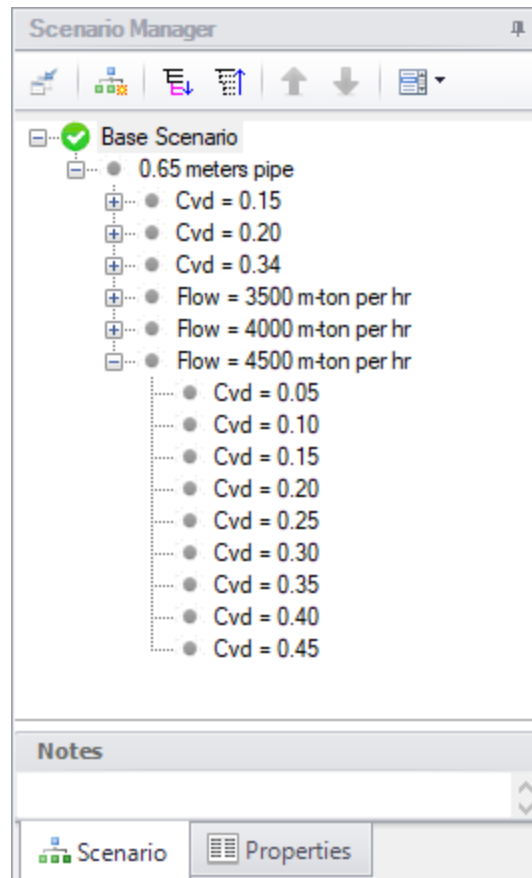

Figure 9: The Scenario Manager on the Quick Access Panel can be used to clone scenarios to easily create additional constant throughput cases
- There are now three additional sets of scenarios, each for a different throughput value. Each of the three flows will have a set of scenarios for a range of different solids concentrations, as shown in Figure 9.